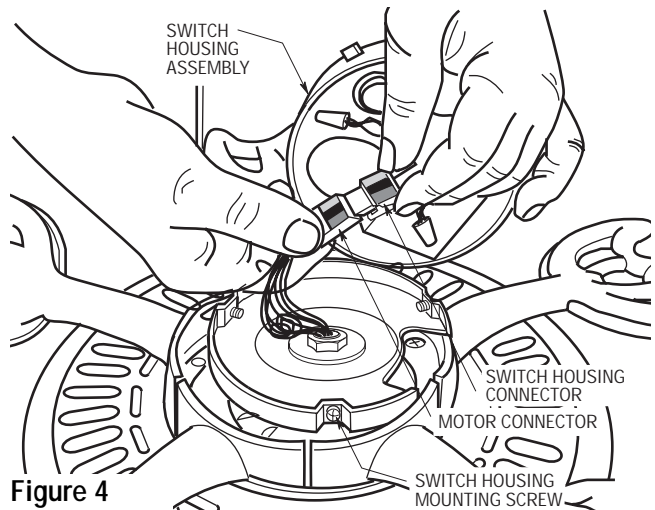

Figure 4
- 10. Engage the connector of the switch housing assembly with the motor connector (Figure 4). The two connectors are keyed and color-coded and must be mated correctly (color-to-color) before they can be engaged. Make sure the connector latch closes properly.
- 11. Remove the three switch housing mounting screws (Figure 4) from the switch housing plate. Position the switch housing assembly on the switch housing plate and align the holes in the switch housing assembly with the holes in the plate. Secure the switch housing assembly by installing the three mounting screws (Figure 5).